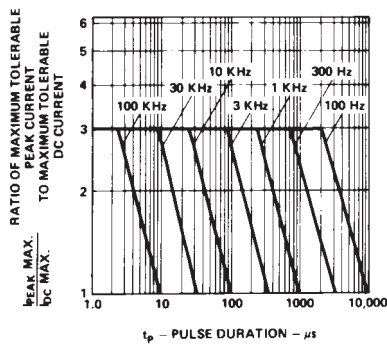

Figure 5. Maximum tolerable peak current vs. pulse duration. (I_{DC} MAX as per MAX ratings)
1. See Figure 5 (Red/Orange), 10 (Yellow), or 15 (Green) to establish pulsed operating conditions.